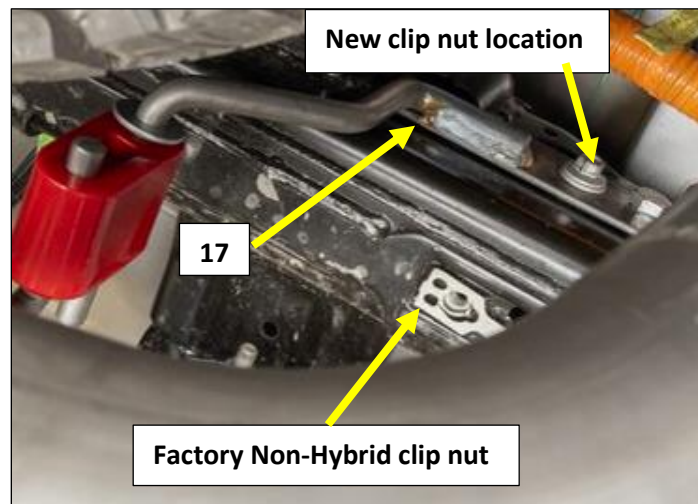

Figure 12
Note: Standard F150 models may already be in the correct location. PowerBoost clip nuts will move from the bottom of the frame rail to directly above and to the inside of the frame rail as shown. See **Fig 12** as reference.
3. Install the 535HAH (17) frame hanger on to the inside left frame rail using the OEM mounting bolt. **Fig. 12**